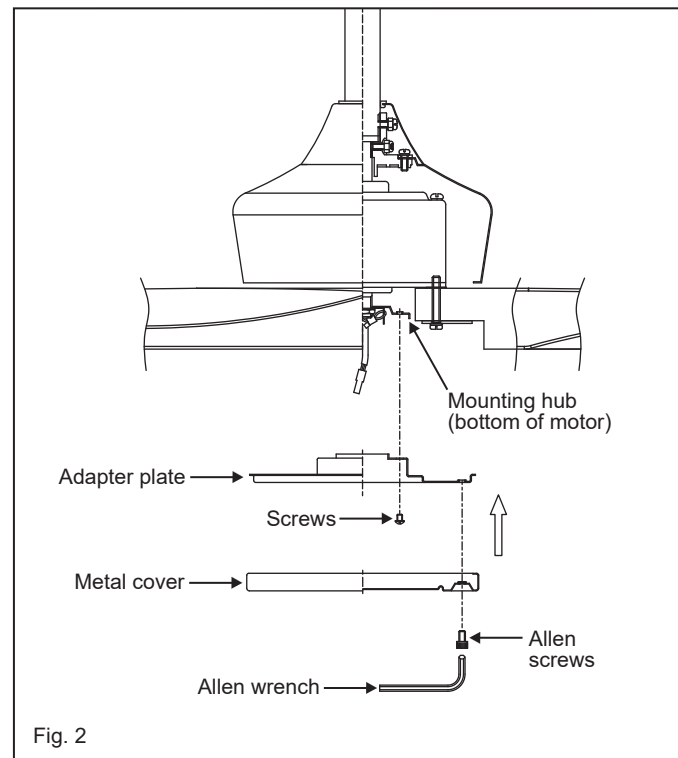

Fig. 2
- 3 Loosen the two security set screws and remove the downrod pin and cotter clip from the coupler on top of the motor assembly. (Fig. 2)
2. Make wire connections from the fan to the controller unit. For this step use the bundle of 5 wires on the controller. (Fig. 2)
- 3 Remove one of the three screws on the adapter plate located on the fan motor. Loosen the other 2 screws. (Do not remove) (Fig. 2)
- 4 While holding the LED light kit under your fan, make the polarized plug connections: (Fig. 2)
- 2 Remove one of the three screws on the mounting hub located on the fan motor. (Fig. 2)
- 7 Install metal cover to the adapter plate with six allen screws previously removed by using the allen wrench provided. (Fig. 2)
- 2 Seat the cradle A into the wall plate. (Fig. 2)
-  Signal light (Fig. 2)